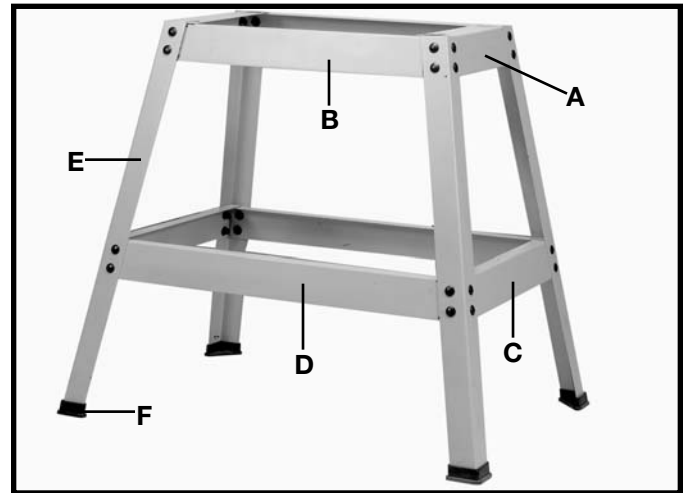

Fig. 4
1. Assemble the stand, as shown in Fig. 4. Align the holes in the stand and fasten the stand together by inserting a M8X20mm carriage head bolt through the hole and place a 3/8" flat washer onto the carriage head bolt and thread a M8 hex nut onto the screw and tighten securely, repeat this process for the thirty one remaining holes. The two 11-1/2" long upper braces (A); 21-5/16" long upper braces (B); 17-1/8" long lower braces (C); and 26-5/8" long lower braces (D) should be fastened to the four 27-1/2" long legs (E). **IMPORTANT: The top angles of the upper braces (A) should be on top of the top angles of upper braces (B).**
2. Assemble a plastic foot (F) Fig. 4, to the bottom of each leg (E) as shown.